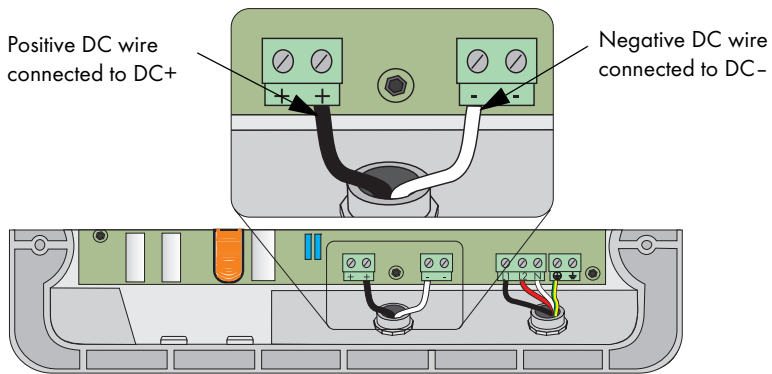

Figure 5-8: DC Connection Terminals
3. Install a 3/4-inch conduit fitting in the Sunny Boy's DC wiring knockout (see Figure 5-1 and Figure 5-8). Fasten the conduit fitting on the inside of the Sunny Boy with the appropriate locknut.
5. Refer to Figure 5-8 for steps 6 through 8.